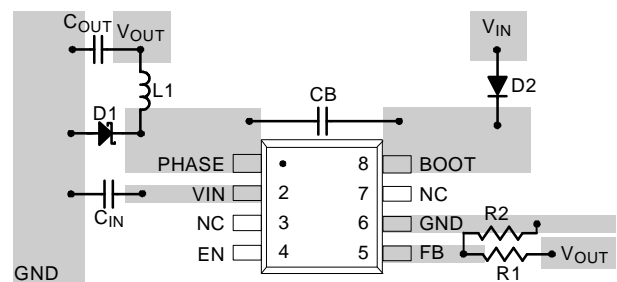

Figure 6
- › An example of PCB layout guide is shown in Figure 6 for reference.